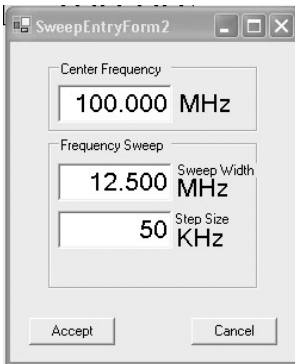

Figure 7-7
**Modify Sweep** button opens the Modify Sweep window shown in Figure 7-7. The Modify Sweep button is only active when the Data Source button is Active (green). The Sweep for Archived files or VIA Echo’s Memory plots can NOT be modified. This button will appear grey when Archived or Memory plots are presented.
The CW Control box presents the single frequency the Echo is using to obtain the data presented. Additionally, this box permits changing the frequency by using the “Bump Up” or “Bump Down” keys. The “Bump Size” controls the amount of frequency jump per button press. The “Bump Size” can be altered by clicking on the “+” and “-” buttons in the “Bump Size” box. The bumping action is limited by the Center Frequency and Sweep Width that is set in the VIA Echo. Those limits are shown on the left-hand side of the “CW Control” box as F-Upper and F-Lower. To expand or change the limits make a change in the Center Frequency and/or Sweep Width at the VIA Echo or in the software’s VIA tab’s Modify Sweep. See Figure 7-7.